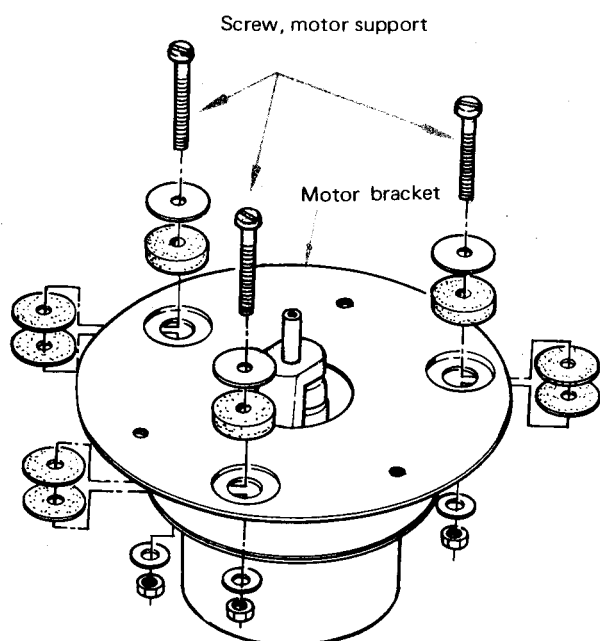

Fig. 2-7 Drive motor removal
5. Remove the three mounting screws from the motor supporting bracket as shown in Fig. 2-7.